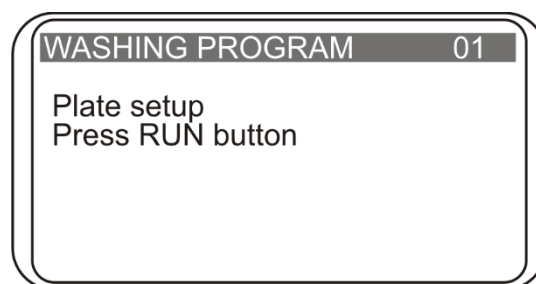

Fig. 10. Manifold lowering depth identification
- 4.20.1. Press the **Enter** key in the start mode, the following message appears on the display (fig. 10).